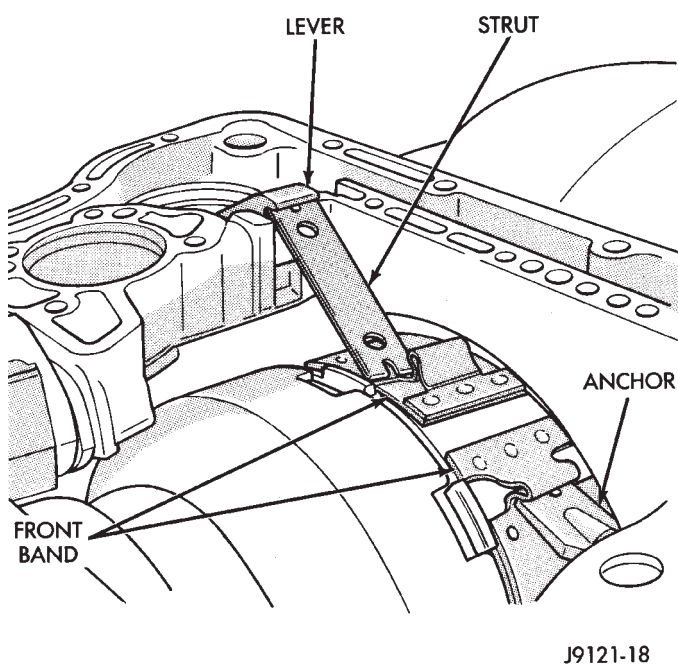

Fig. 22 Front Band Linkage—46RH
(21) Loosen front band adjusting screw until band is completely loose.
(22) Remove front band strut and anchor (Fig. 22).